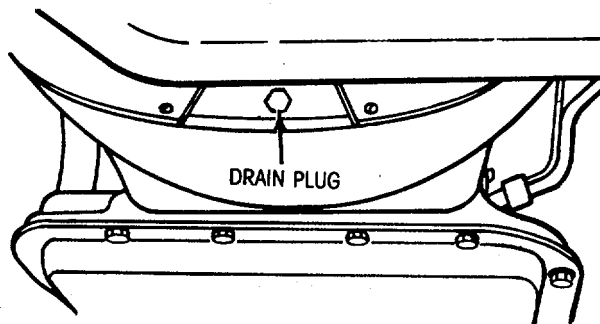

Figure 5-7. Drain Plug Location
6. Rotate engine to gain access to the converter drain plug (figure 5-7). Remove plug; rotate converter so drain opening is at the low point.